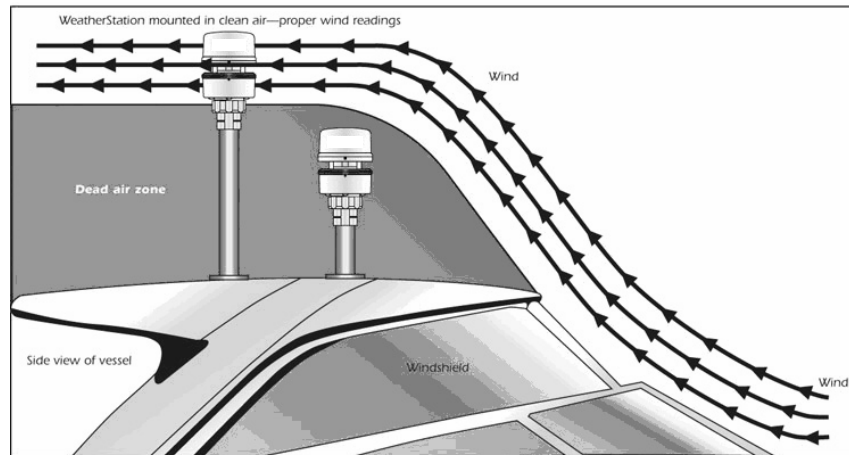

Figure 12. Boat/vehicle mounting location (boat shown)
*Move the instrument farther back and higher (see Figure 12).*